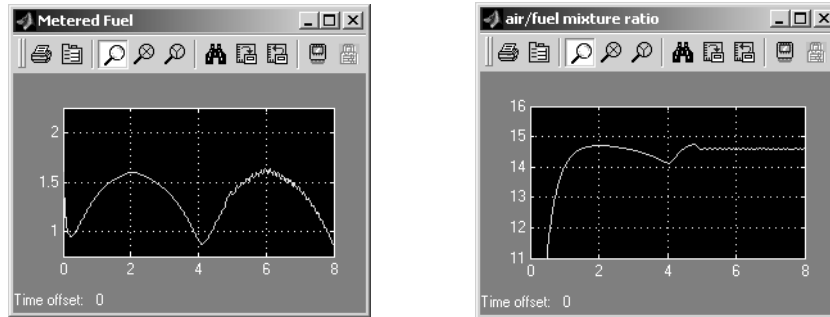

Figure 3-2: Signals Displayed at End of Simulation or Cosimulation
- 9 When the simulation completes, the signals displayed on the scopes should appear as shown in Figure 3-2.
- 2 Open the Scope blocks and start the simulation. When the simulation completes (simulation time is set to 8 seconds), the signals displayed on the scopes should appear identical to those displayed during the previous cosimulation (see Figure 3-2 on page 3-16).
- 2 Start the simulation. You will notice that the simulation completes much more quickly, due to the efficiency of the generated code. Also, observe that the generated code displays results, on the scopes, that are identical to the previous simulation and cosimulation (see Figure 3-2 on page 3-16).